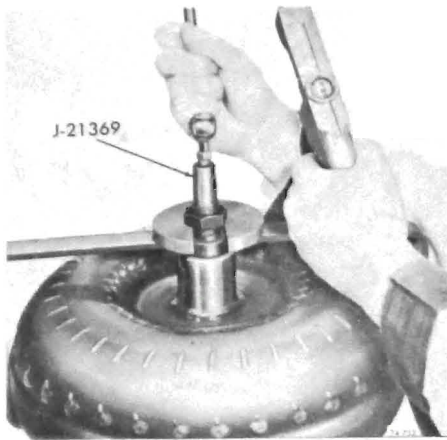

Figure 76-732
- l. Check converter for leaks as follows: (See Figure 76-732.)